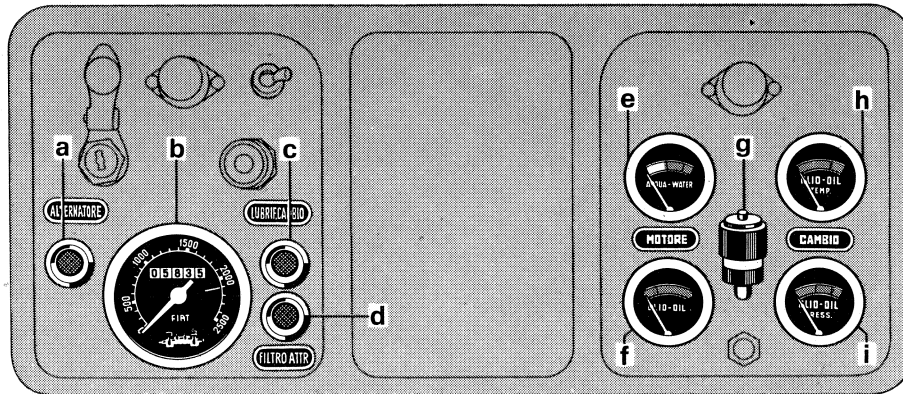

Fig. 10 - Gauges and indicators
7. **Dash gauges and indicators.** See fig. 10.